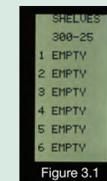

Figure 3.1
- 5 The display will show the status of all 6 shelves. If nothing has been sent to a shelf, its status is "EMPTY". (Fig. 3.1)
To cancel the times on the shelf display, while the times are displayed as above, press the number pad that corresponds to the shelf time to be cancelled and hold it for 3 seconds. Pressing 1 through 6 and holding each for 3 seconds will return the shelf display to "EMPTY" (Fig. 3.1).